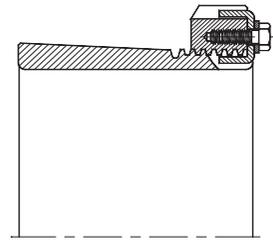

Fig. 2.23
- c) Adapter sleeves, washers and locking nuts (fig. 2.23)